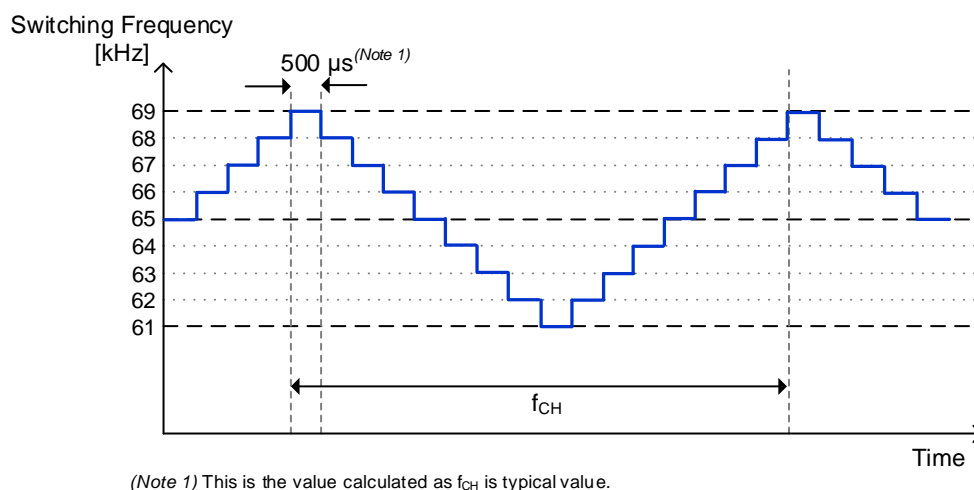

Figure 6. Frequency Hopping Function
- The switching frequency is fixed at f_{SW1} by an internal oscillator. It has a built-in frequency hopping function and it makes the switching frequency fluctuate as shown in Figure 6. The hopping fluctuation cycle is f_{CH} .